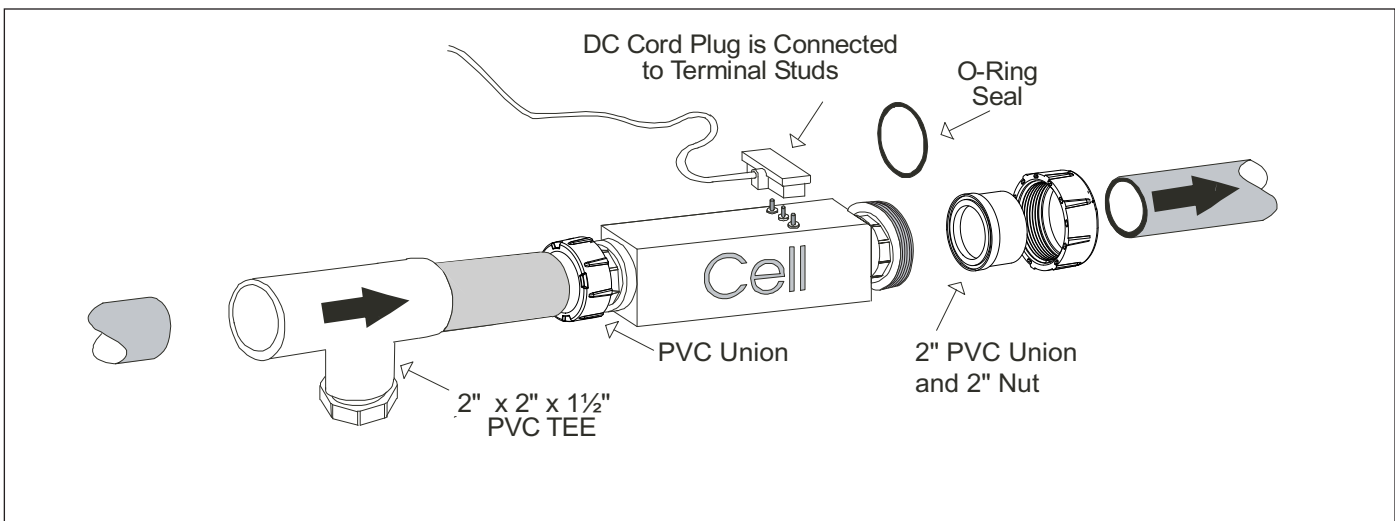

Figure 13. Cell Installation
2. It is recommended that the Flow/Temp/Salinity Sensor and Electrolytic Cell be installed in the pool return line after the filter and heater. Water passes through the Flow/Temp/Salinity Sensor before the Cell. The Cell can be installed in either a horizontal (as shown in Figure 13) or a vertical position.
10. Plug the DC cord into the Cell stud terminals protruding from the Cell top (see Figure 13). The DC cord can be plugged into the cell in either direction.